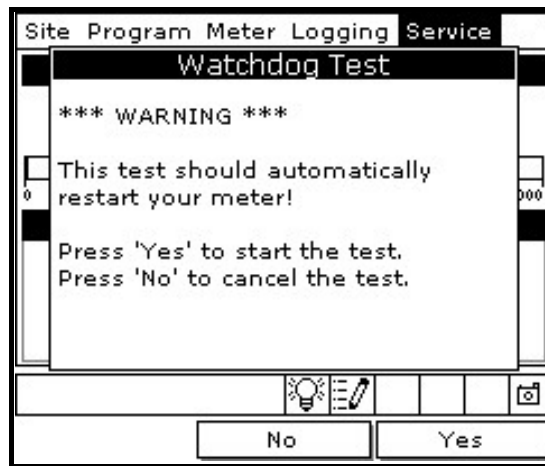

Figure 65: Watchdog Test Screen
4. Use the arrow keys to scroll to Watchdog Test and press **[ENTER]**. The screen appears similar to Figure 65.